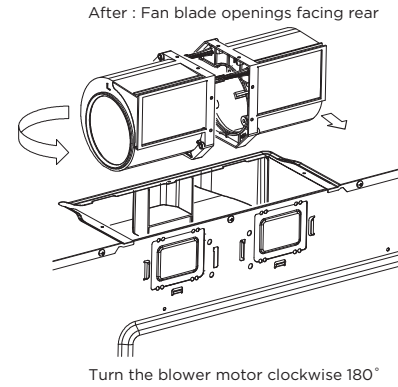

Figure 9
- Turn the blower unit so that the fan blade openings are facing back (rear of unit). See Figure 9.